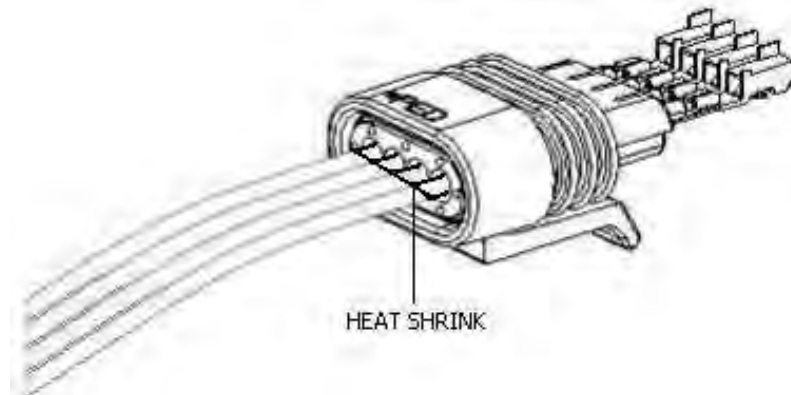

Figure 65
- m. Pull terminated wires back through connector assembly as shown in Figure 65 to the fully seated position. Ensure that the terminal is in the correct orientation as it moves into the terminal cavity. Verify the terminal has been fully seated by listening for the audible click of the locking tab.